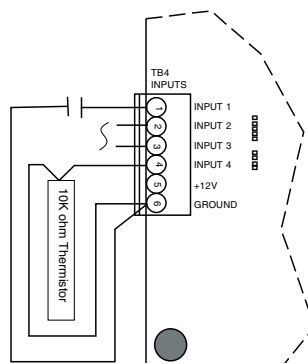

Figure 18. Input Device Connections
1. Connect the external input devices (contact or thermistor) leads to an input terminal, TB4-1 through TB4-4 (Input 1 to Input 4, see Figure 18).